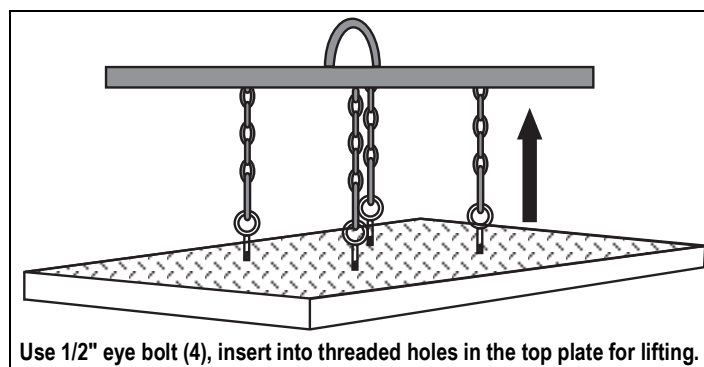

Figure 2-1. Proper Lifting Technique
**IMPORTANT** Lift the scale only with a properly designed spreader bar as shown in Figure 2-1. Lifting force must be vertical to avoid bending the eye bolts.